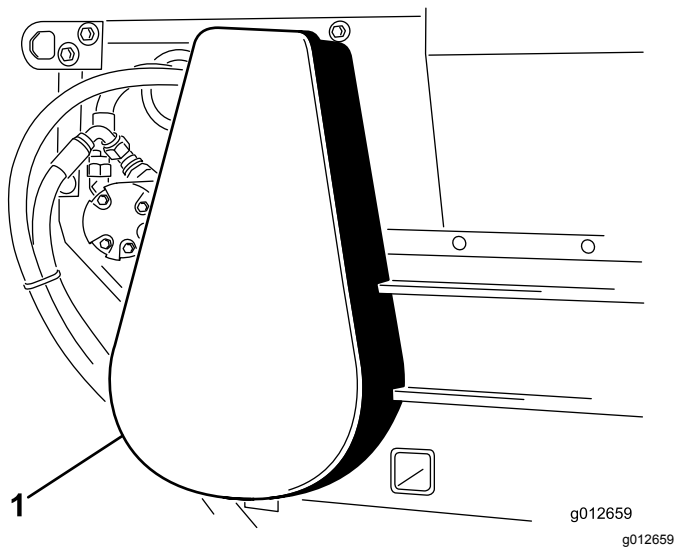

Figure 33
3. Install the chain cover (Figure 33).